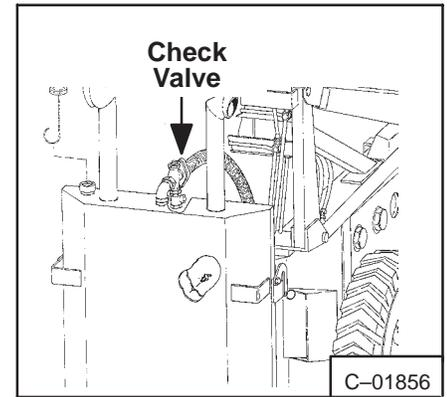

Fig. 1-26 Exhaust Check Valve
5. Check exhaust, check valve (located between engine and exhaust gas conditioner) (Fig. 1-26). Check each day to make sure it will open when suction is applied to exhaust pipe. The check valve is intended to keep water from entering engine in event engine turns over backwards (opposite of normal rotation).